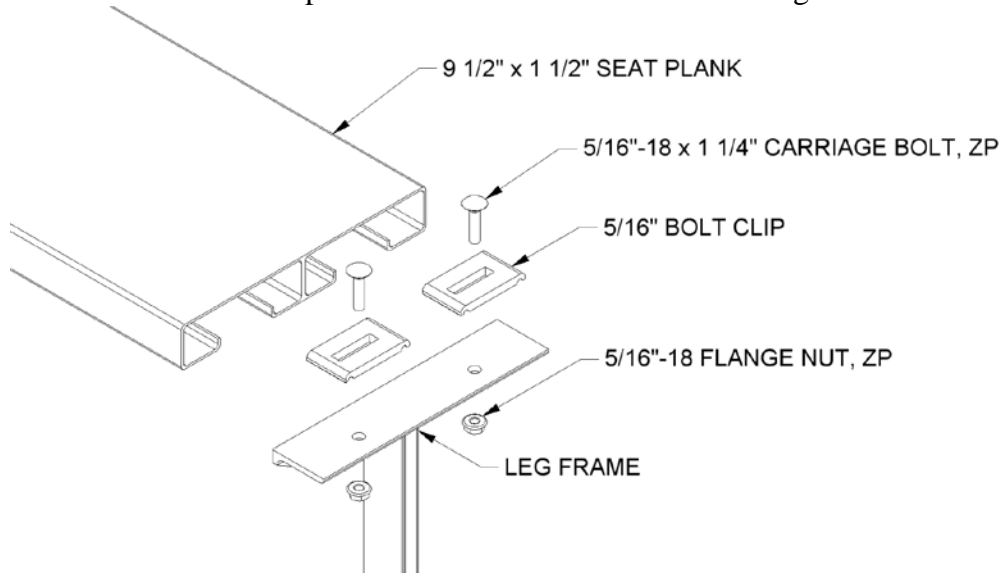
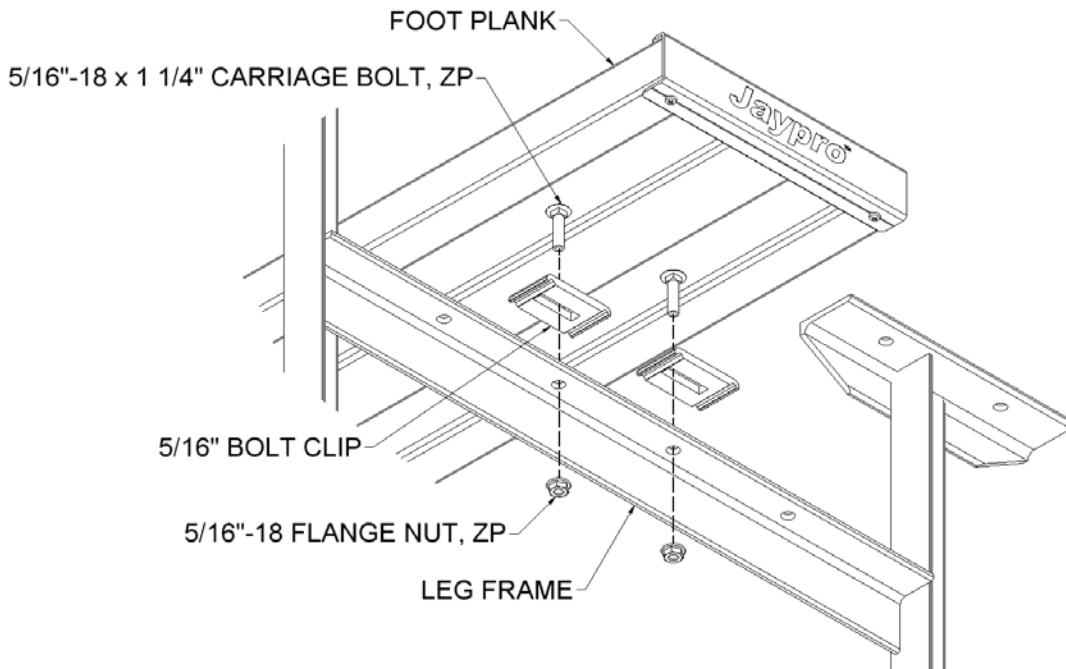
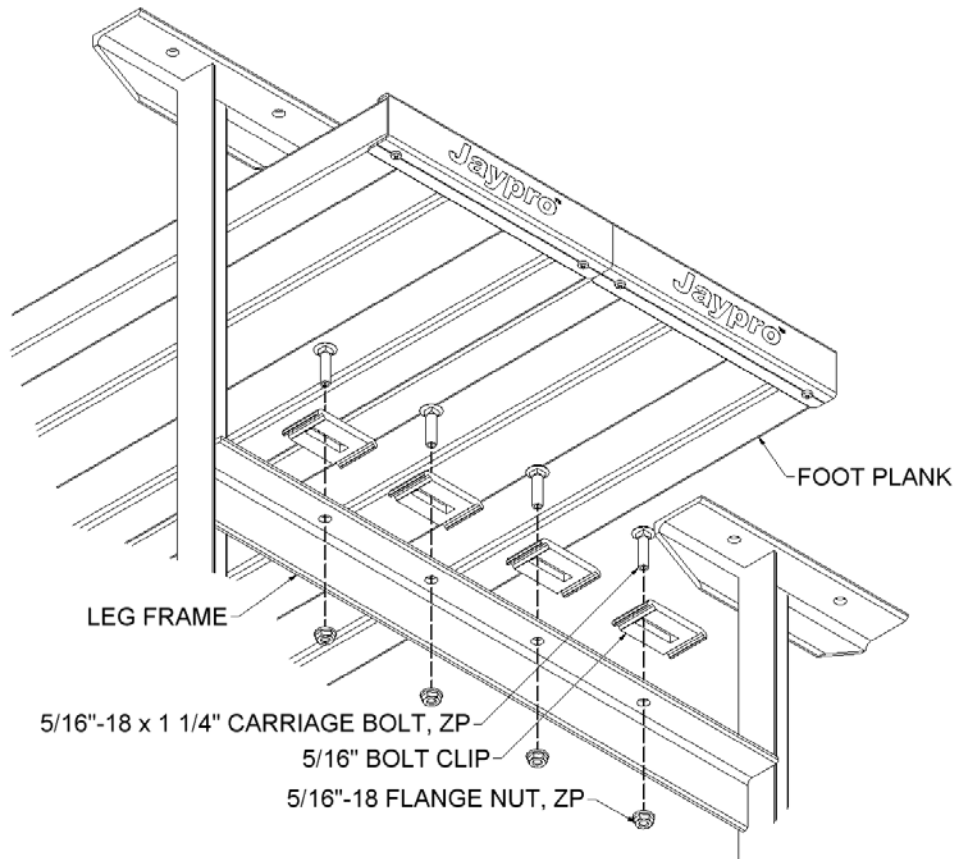

FIGURE: 5
FIGURE: 6
FIGURE: 7
5. Making sure the undercarriage frame is square and plumb, install the seat and foot planks. The seat and foot planks are best installed starting from the front seat and working towards the back. Use the hardware and bolt clip as shown in figure 5. Position planks so they are centered on the frame, with equal amount of overhang on each end. Note that standard bleacher (BLCH-227TRG) have a single foot plank, which is centered on the support frame, see figure 6. Preferred bleacher (BLDP-227TRG) have double foot planks and are installed as shown in figure 7.